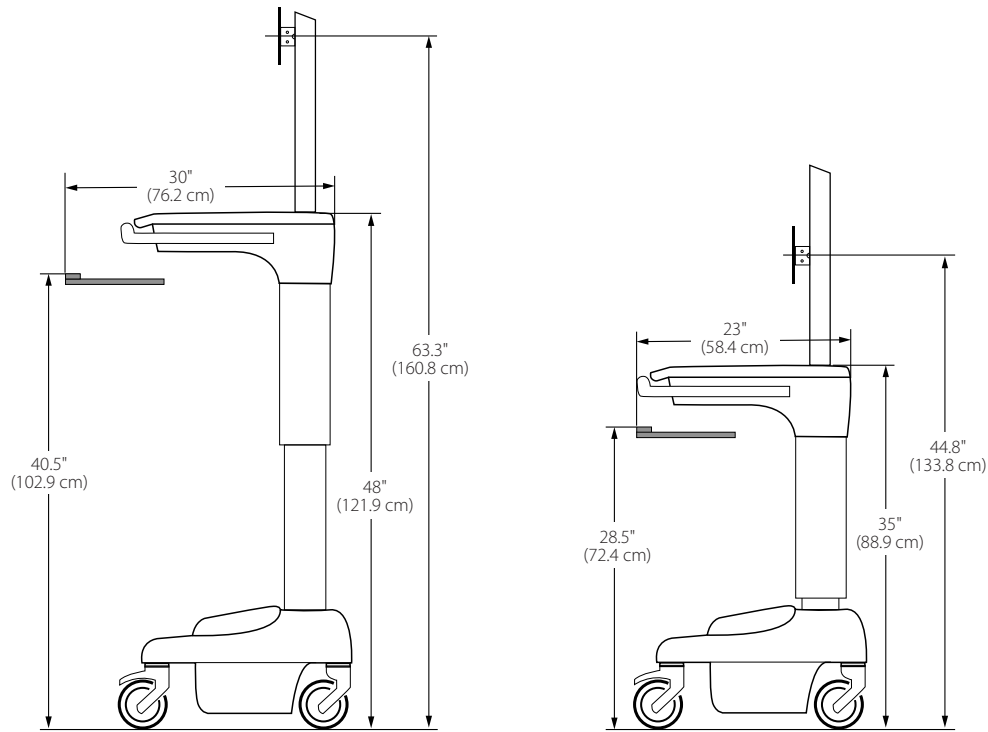

Figure 1
- Independent Worksurface height adjustment (**Figures 1 & 2**)
- Sit-to-stand height adjustment range 13" (33 cm) (**Figures 1 & 2**)